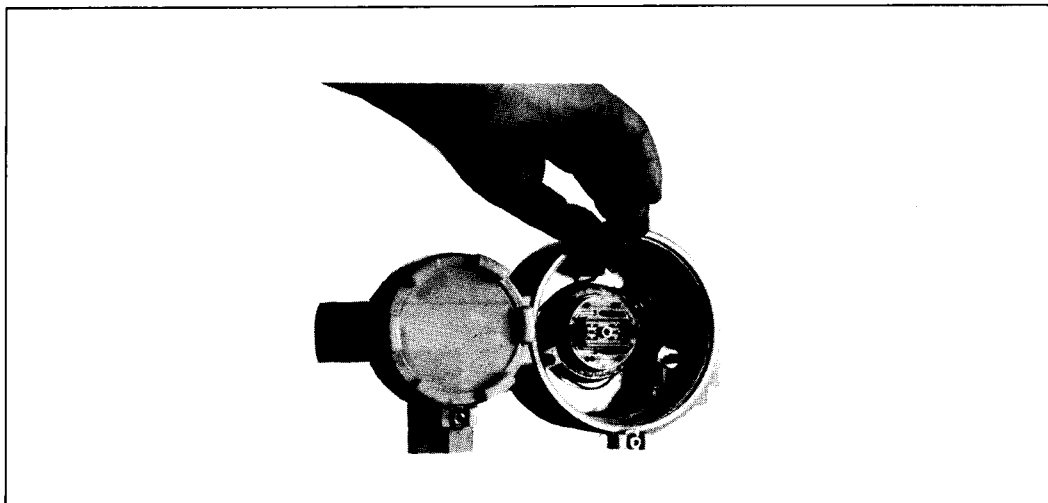

Figure 5. Loosening the bolt
1.5 Removing the Meter Body (See Figure 5.)